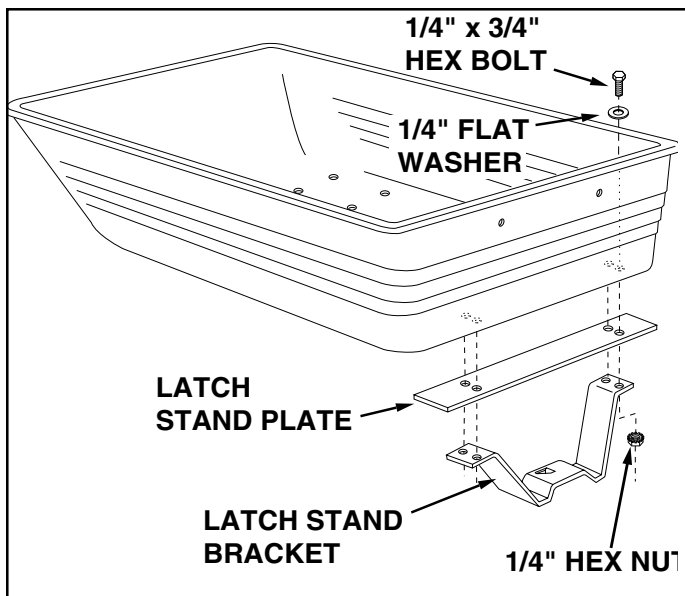

FIGURE 6
- Assemble the latch stand plate and the latch stand bracket to the bottom of the poly tray using four 1/4" x 3/4" hex bolts, 1/4" flat washers and 1/4" hex nuts. **Tighten.** See figure 6.